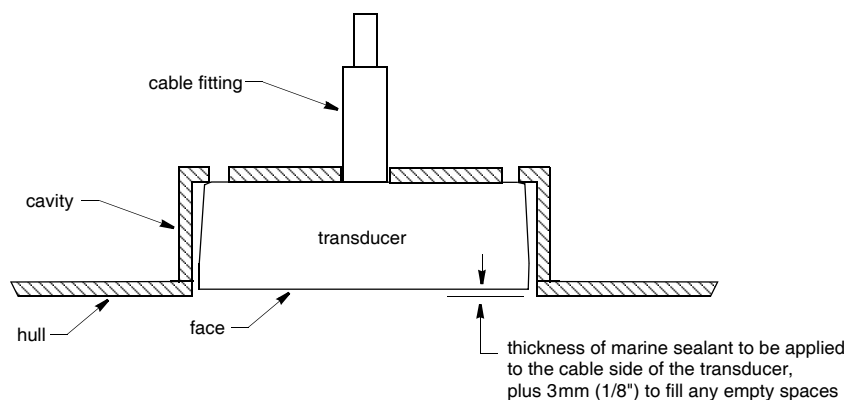

Figure 2. Dry fitting
3. From outside the hull, thread the transducer cable through the hole in the mounting cavity (Figure 2). Push the transducer into the cavity as far as possible.